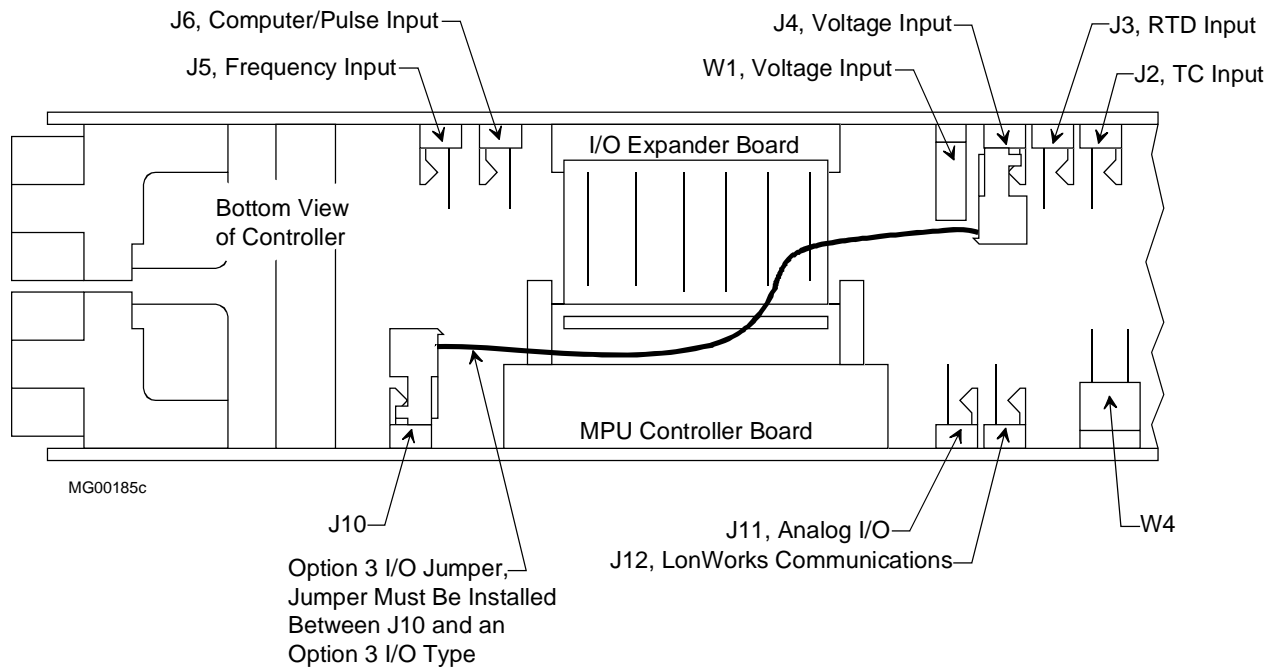

Figure 11-8 Option 3 I/O Selection Using the Option 3 I/O Jumper
With an Expander Board installed, an Option 3 I/O type may be selected; see Table 11-4 and Figure 11-8.
- selecting the Option 3 I/O type as shown in Table 11-4 and Figure 11-8 [When LonWorks is field selected the factory selected Option 3 I/O type will be disabled but all other non-Option 3 I/O Expander inputs and outputs at connectors 'C' and 'D' (e.g. relay outputs) will remain available.]